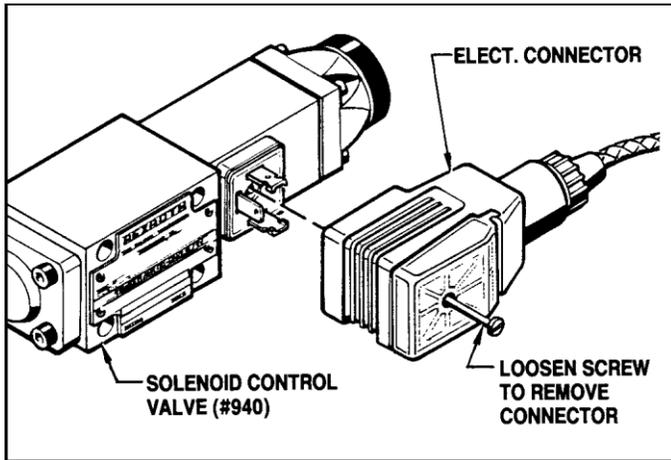

Figure 7.01 - Disconnecting The Electrical connector
- b. Disconnect the electrical connector from the solenoid control valve by unscrewing the captive screw in the electrical connector and unplugging the connector from the solenoid valve. (See Figure 7.01)